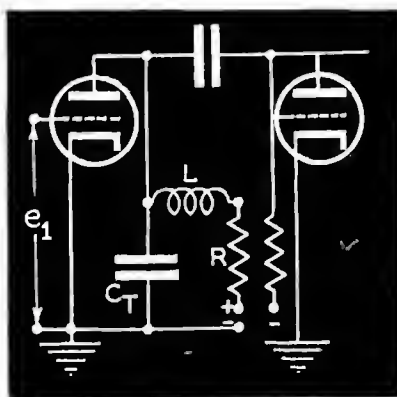
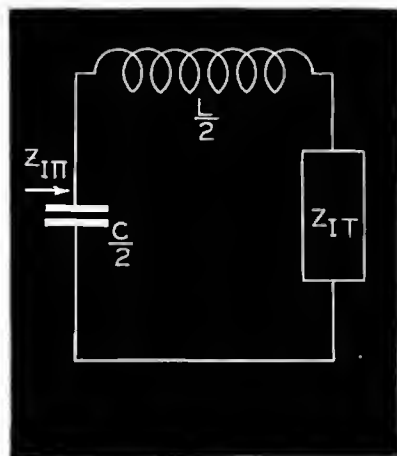
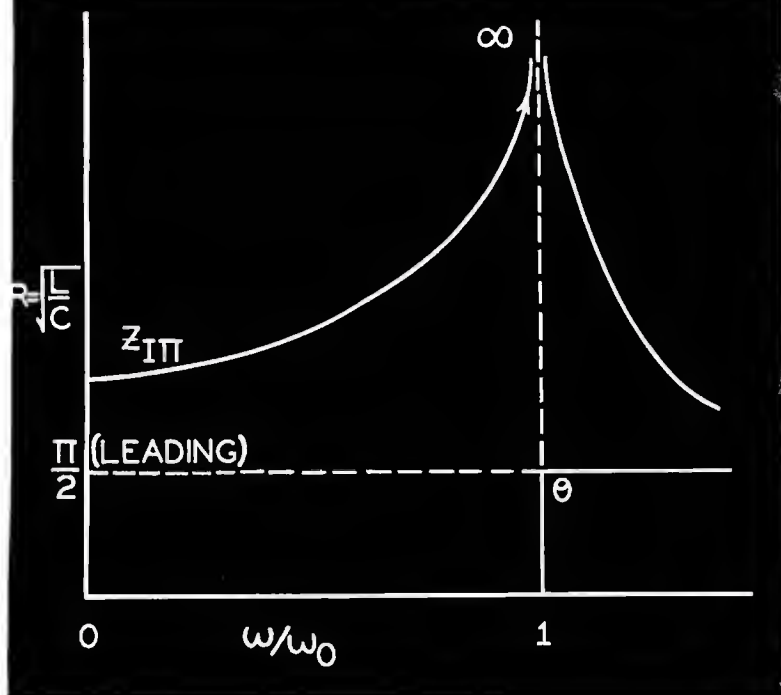

Figure 5
Figure 6
Figure 7
Figs. 5 and 6
In Fig. 5 (extreme left) appears life expectancy data of a pure tungsten filament as a function of filament voltage and minimum permissible filament voltage. Fig. 6 shows the effect of voltage fluctuation on allowable plate current and life expectancy of pure tungsten filament. Both of these curves were calculated on a basis of square wave fluctuation.
In order to maintain a high value for  $Z_L$  over as wide a frequency range as possible consistent with linearity of phase shift, various more complicated circuits are employed. A very useful method of deriving a suitable circuit configuration is based on filter theory. In Figure 5 is shown a simple modification of the resistance coupling stage shown in Figure 3A, namely, the introduction of an inductance  $L$  in series with the load resistance here denoted by  $R$ . We may regard the circuit as a parallel resonant LC circuit sufficiently damped by  $R$  to maintain a relatively constant impedance over a wide band of frequencies. However, the circuit is purposely drawn in such manner as to suggest that it represents a half section constant  $k$  filter terminated in what can be its nominal image impedance. Accordingly, it will be of interest to study the behavior of such a filter section when terminated in its true image impedance and viewed from its mid shunt terminals. (Figure 6).
We note in passing that a half section due to its asymmetry has a different image impedance when viewed from either pair of terminals. Thus (Figure 6) on the left hand side it has the image impedance of a  $\pi$  section, whereas, on the right hand side it has the image impedance of a  $T$  section. Either image impedance may be found by taking the square root of the product of the open circuit and short circuit measurements or calculations made from
If  $Z_{I\pi}$  be plotted against the frequency ratio  $(\omega/\omega_0)$ , the plot will be as in Figure 7. As  $\omega/\omega_0$  approaches unity, the denominator of Eq. (6) approaches zero and consequently  $Z_{I\pi}$  approaches infinity. For values of  $\omega/\omega_0$  greater than unity  $Z_{I\pi}$  becomes a pure capacitive reactance and decreases asymptotically to zero. The interesting feature is that for values of  $\omega/\omega_0$  less than unity  $Z_{I\pi}$  is a pure resistance, which, however, is a function of frequency. Such an impedance is not physically realizable and arises in this example because of the assumption that this half section is terminated at its right hand end (Figure 6) in the true image impedance of a  $T$  section. The latter image impedance is not physically realizable since one suggested form for it is an infinite succession of  $T$  sections in cascade. However, were such a termination physically available it would not be of any use as shown since the gain (which would be simply  $G_m Z_{I\pi}$ ) would rise to infinity (in the case of a true constant current generator) as  $\omega/\omega_0$  approached unity. In practice, the gain would rise to a peak instead of being flat over a band of frequencies and then falling off gradually. It is therefore evident that a constant  $k$  half section filter is not in itself desirable unless suitably modified. A general method of modification is due to Percival2 and is given in the next sec-